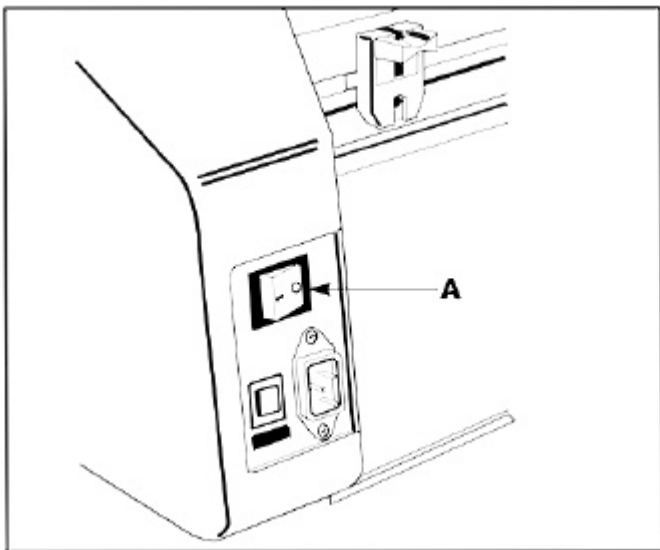

Fig. 1
A. POWER SWITCH: Figure 1. Located at the back of the machine applies power to the laminator. The LCD display panel will illuminate when position marked "I" is pushed. The off position, marked "O", removes power from the laminator.